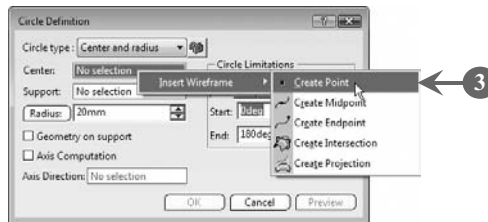

FIGURE 5.19
The **Circle Definition** dialog box opens (Figure 5.19).
3. *Right-click* inside the **Center** box and *select* the **Insert Wireframe**>**Create Point** option from the context menu to create the center of the circle, as shown in Figure 5.19: